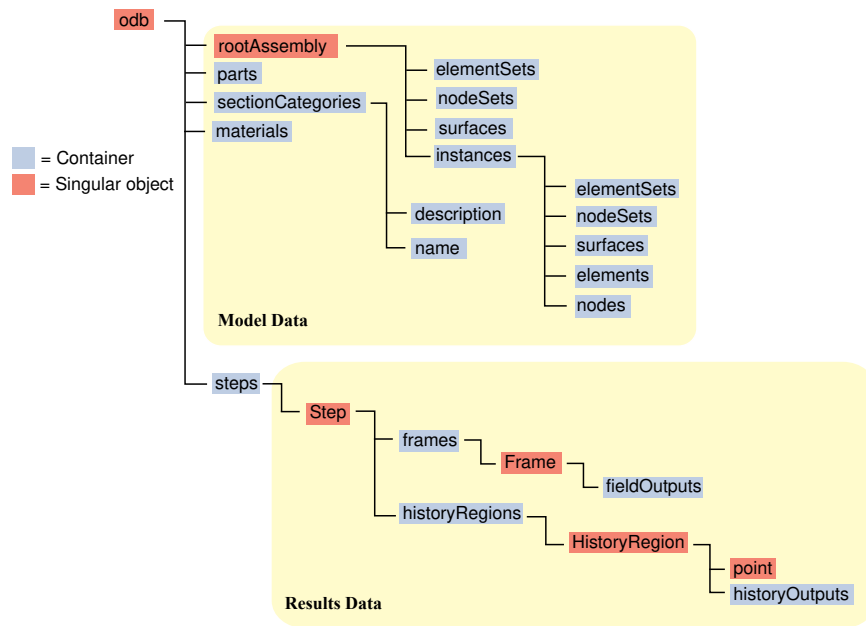

Figure 1: The model data object model.
*Figure 1* shows the model data object model.